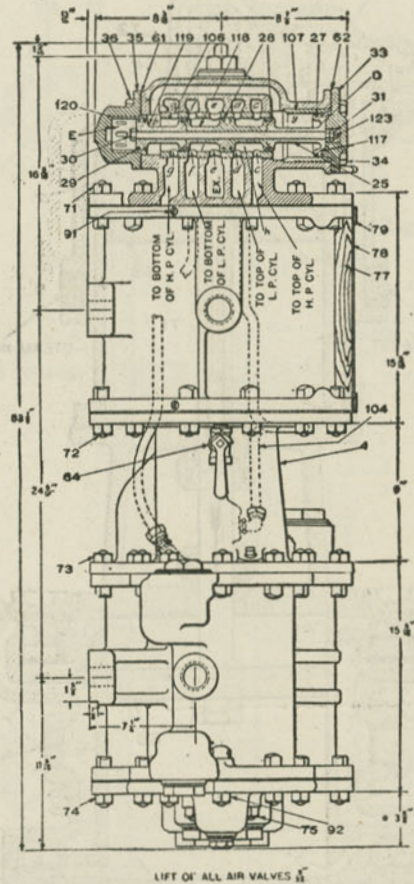

Fig. 427. Cross Compound Compressor—Side View.
A. There is a high-pressure and a low-pressure steam cylinder, connected tandem with a low-pressure and a high-pressure air cylinder respectively, the pistons moving uniformly in opposite directions. (Figs 427, 428, 429, in which the latter shows the piston valve and reversing valve turned horizontally through 90° to simplify the explanation.) The piston valve has a large head at one end, a small one at the other, and three intermediates of uniform size, making six chambers. Of these, *E* opens to the atmosphere, *b* to passage *a*, *i* to the lower end of the L. P. steam cylinder, *h* to its upper end, *y* to passage *a*. The reversing valve 22 moves vertically in chamber *C*, controlling steam admission and exhaust from the cavity *D*, moving the piston valve horizontally.